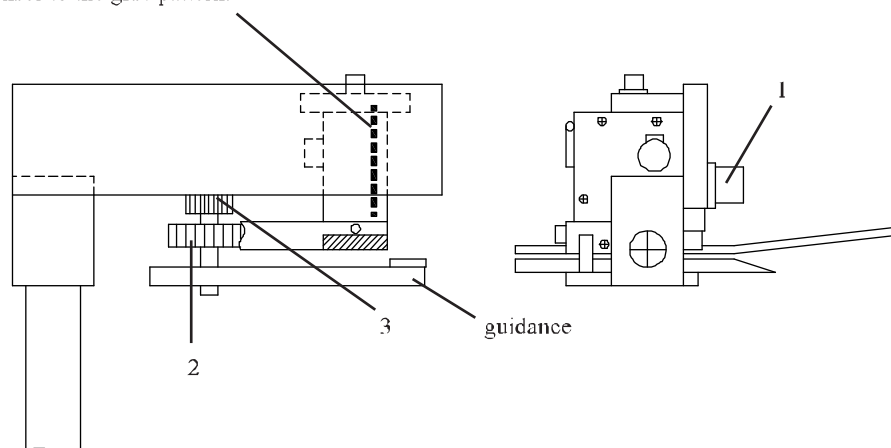

Figure 5-35. MW-101 Microwave Sensor Installation
- 2a. Loosen screw (1, Figure 5-35) and move the sensor to the side.
- 2b. Loosen spring-loaded screw (2).
- 2c. Use screw (3) to adjust the distance between the rails.